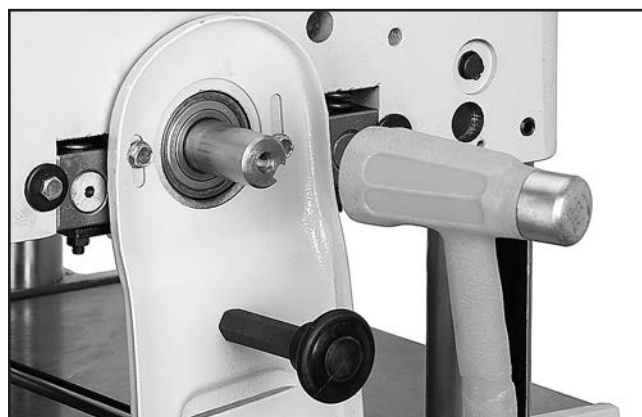

Figure 8. Unseating cutterhead from headstock.
20. Have an assistant hold gearbox steady while you use a rubber or wooden mallet to unseat cutterhead from headstock, as shown in **Figure 8**.